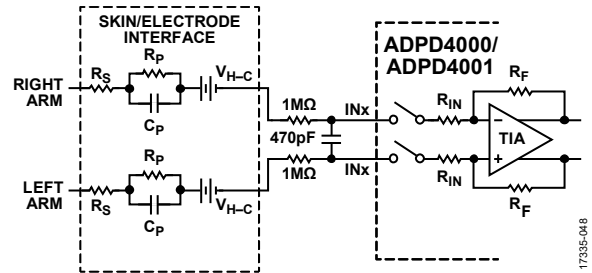

Figure 46. Circuit for Measuring ECG with the ADPD4000/ADPD4001
The ADPD4000/ADPD4001 can be used for ECG applications with the simple addition of an external resistor/capacitor (RC) network as shown in Figure 46. The electrical equivalent model for a dry electrode is shown along with an RC circuit, external to the ADPD4000/ADPD4001, consisting of two 1 M Ω resistors in series with the inputs and a 470 pF capacitor across the inputs, which serves as the sensing capacitor for the ECG signal.
When the electrode half cell potential mismatch becomes very large, on the order of hundreds of millivolts or greater, the half cell dc signal (V_{H-C} , see Figure 46) uses a significant amount of the dynamic range available for the ECG measurement. This half cell potential mismatch is a result of using electrodes of different materials, for example, stainless steel for one of the electrodes and titanium for a second electrode. The maximum amount of charge that the ADPD4000/ADPD4001 can accommodate for a single sample is ~ 7.5 pC when using the 200 k Ω TIA gain setting. The maximum allowable charge per sample scales inversely with the gain of the TIA. The presence of a large dc signal creates excess charge on the sampling capacitor, which can saturate the input to the ADC. For example, a half cell potential mismatch of 100 mV adds an additional 47 pC of charge to the 470 pF capacitor.